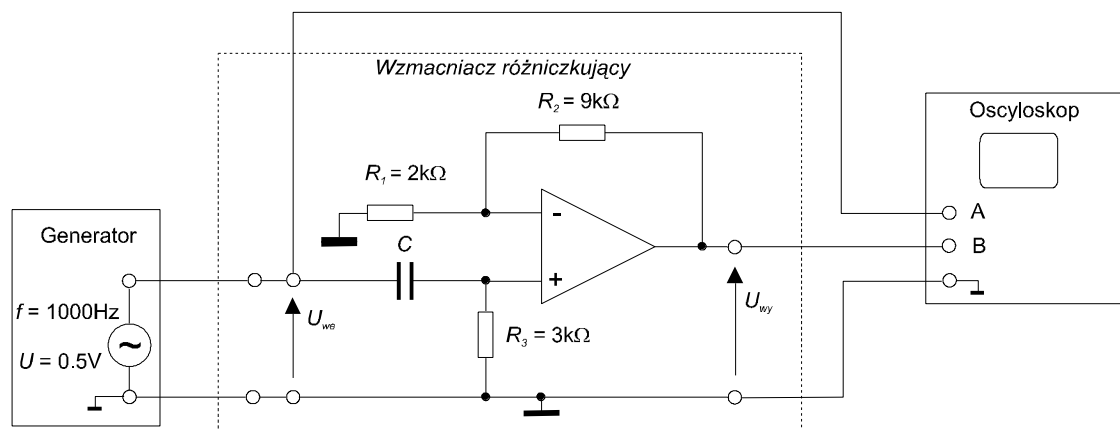

Fig. 9.3.5. System for testing the differentiator: a) on the inverting input, b) on the non-inverting input.
- Connect one of the measuring systems from Fig. 9.3.5. (according to the instructor's instructions). Redraw the differentiate circuit diagram. At the input of the differentiate, give the generator a sinusoidal signal with an amplitude $U_{we} = 0.5\text{ V}$ and frequencies: